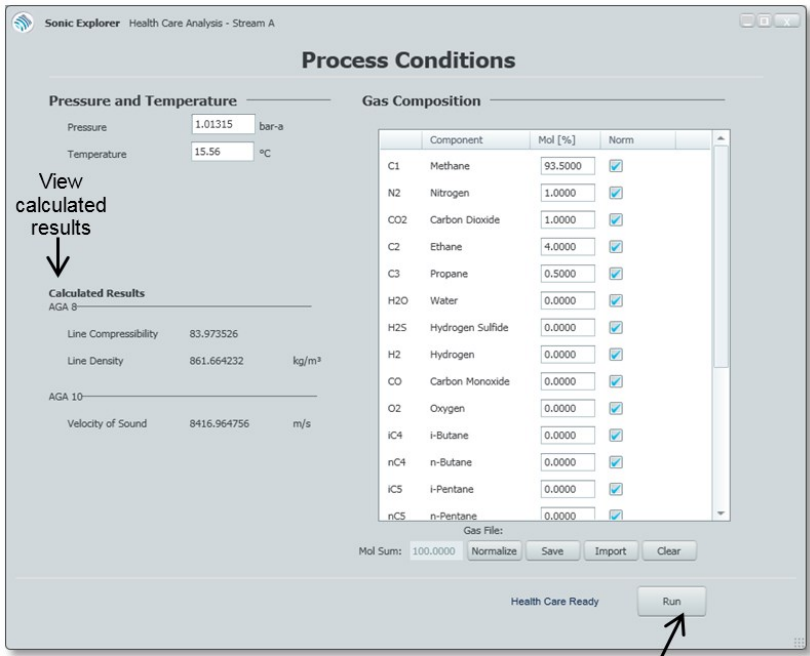

Figure 11-1 Process Conditions
- ✓ SonicExplorer will open a new window showing the **Process Conditions**. Please see Figure 11-1.
- ✓ Once all process conditions are filled in, three gas parameters are calculated: **Line Compressibility, Line Density and Velocity of Sound**. These are shown in the left hand side of Figure 11-1, under the heading **Calculated Results**.
As seen in Figure 11-1 There are four actions available related to the gas composition: **Normalize, Save, Import, and Clear**. These functions allow you to adjust which gas file you would like to use to run the analysis.
- ▶ Press **Run** (as seen in Figure 11-1).